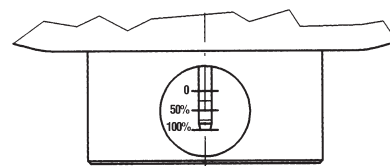

Fig. 20
- 14) Ascertain that the PM/182 monitor positions itself completely open, controlling the position of the stroke indicator through the port (fig. 20).
- 16) Ascertain that the REVAL 182 monitor positions itself completely open, controlling the position of the stroke indicator through the port (fig. 20).